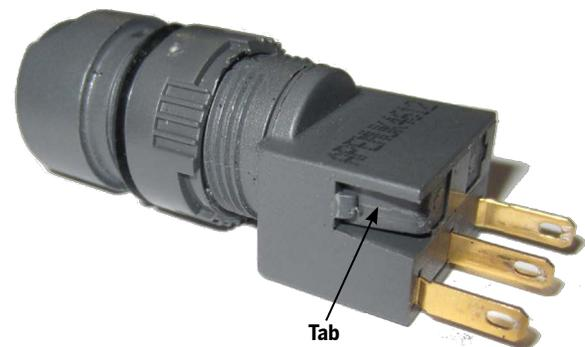

Figure 70: KeyLock Closeup
3. Press the tab on the side of the connector block and pull it off the back side of the KeyLock. See Figure 70.